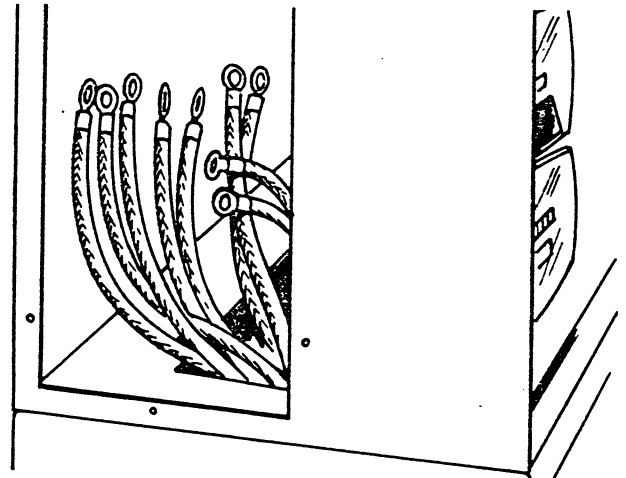

FIGURE 15. CONTROL BOX (SIDE PANEL REMOVED)
1. Remove either right, left or top panel from control box. See Figure 15.